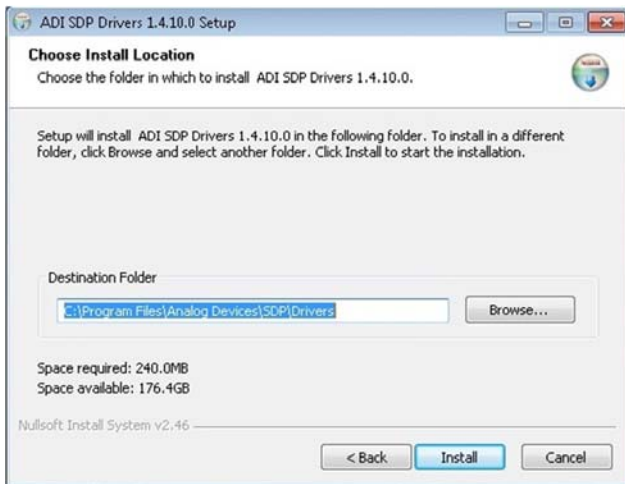

Figure 18. Choose Install Location Window
1. Use the default install location found under **Destination Folder** and then click **Install** (see Figure 18).